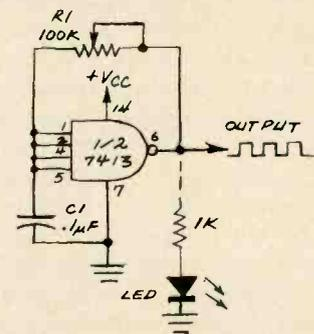

Fig. 3. Connecting one of the two triggers in the 7413 as an oscillator to provide pulses.
**Schmitt Trigger Oscillator.** Fig. 3 shows how to connect one of the two Schmitt triggers in the 7413 as an oscillator that provides a reasonably stable source of pulses with fast rise and fall times. The frequency of oscillation and the pulse width are determined by  $R1$  and  $C1$ . With the values shown, the pulses have an amplitude of 2 volts, a width of 25 microseconds, and a rise time of less than 100 nanoseconds. The oscillation frequency can be varied from a low of 70 Hz to a high of about 300 kHz by adjusting  $R1$ .